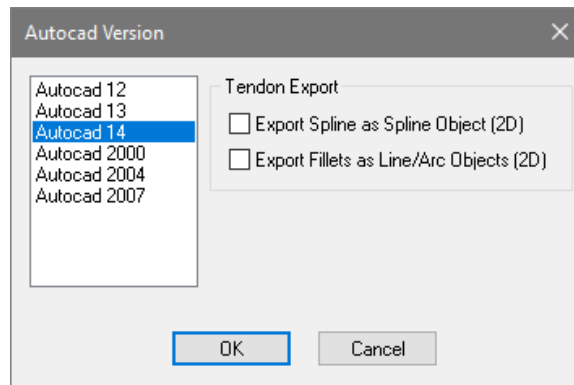

Figure 9-116
- We can now export the rebar to a CAD drawing in order to produce our documentation. Go to *File* → *Export* → *DWG*. This will open the AutoCAD Version window where the user can choose the drawing version as well as, whether they want the drawing to export tendons as Polylines or Splines as shown in **FIGURE 9-116**.